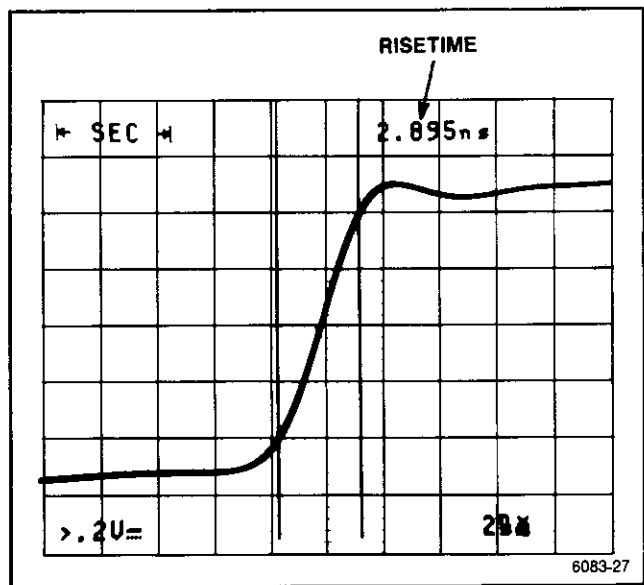

Figure 6-13. Rise time measurement.
4. Advance the SEC/DIV setting to stretch out the rising edge of the waveform as much as possible to improve the cursor placement accuracy (see Figure 6-13).
7. Use the |- or DELAY control to align the first cursor to the rising edge at the point it crosses the 10% reference graticule line. Then use the -| or Δ control to align the second cursor to the point that the rising edge crosses the 90% graticule line and read the rise time displayed in the top line of the crt readout (see Figure 6-13).